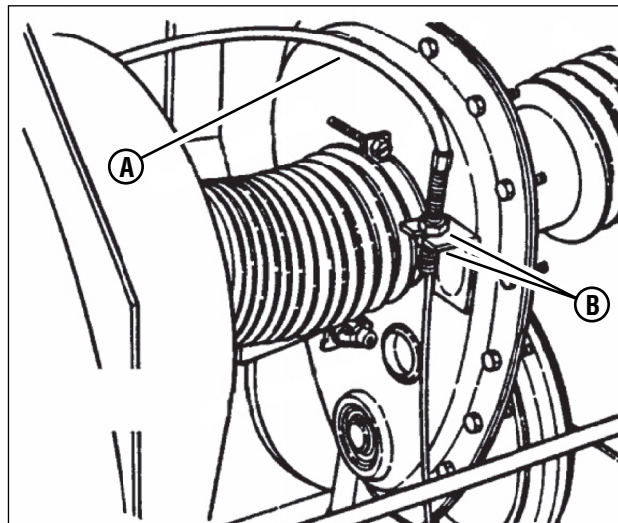

Figure 41: Brake cable adjusting nuts
6. If the measurement is not 3/4", loosen the two jam-nuts (A, Figure 41). Hold the clutch/brake cable (B) to the chain case bracket.